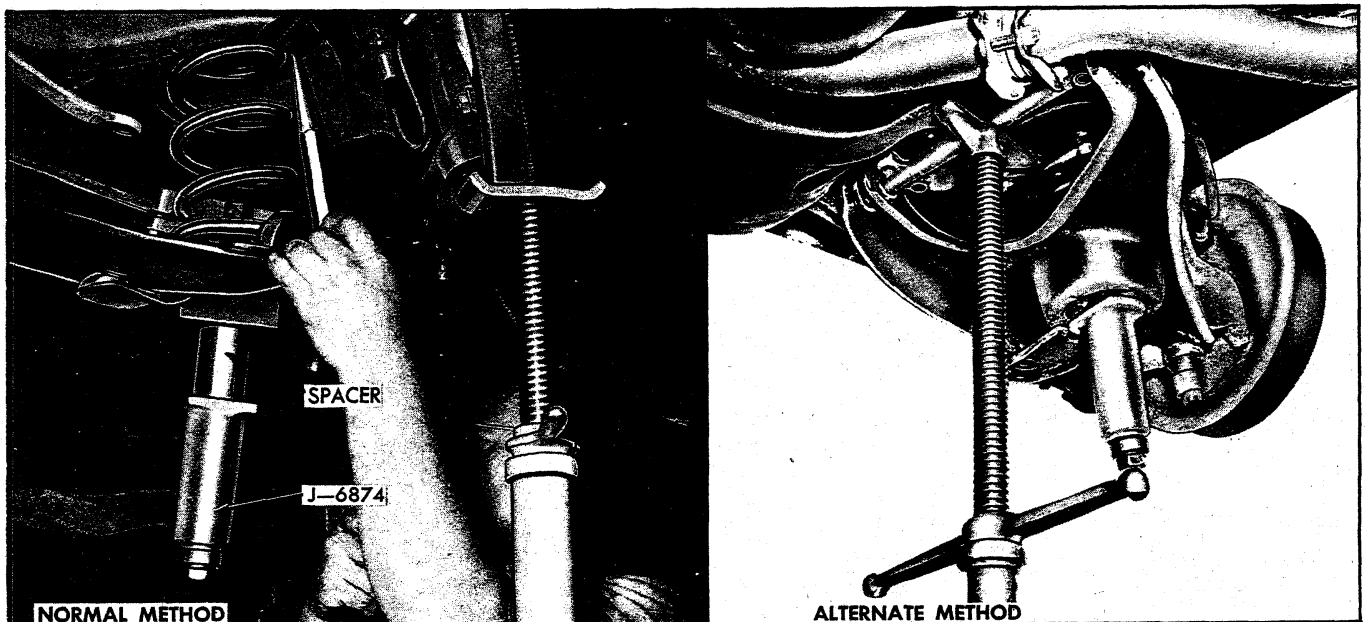

Fig. 22 - Removing or Installing Front Coil Spring - Corvette (Typical)
4. Position spacers under shock absorber mounting hole and against bottom of lower control arm. Install special bearing washer and Tool J-6874-5. Locate bearing against spacer and large washer against bearing. Feed screw up through large washer bearing and spacer and thread into Tool J-6874 and tighten snugly (fig. 22).
5. Center shoe assembly on spring and tighten screw until a very slight compression is placed on spring (fig. 22). Then firmly tighten down the two capscrews securing the upper and lower shoes to lock these shoes to spring.
6. Turn head of screw until spring is compressed just enough to clear the spring tower, then remove the lower ball joint to steering knuckle nut (fig. 22).
available the following procedure may also be used (fig. 22—Alternate Method).
6. Carefully lower jack stand and if necessary increase compression on spring and when coil spring is out of its upper seat, relax tension on spring (fig. 22).